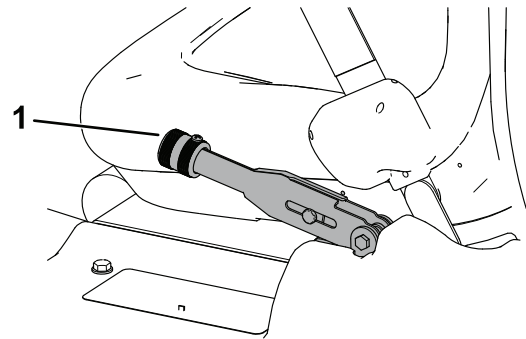

Figure 48
2. Loosen the set screw securing the knob to the parking-brake lever (**Figure 48**).